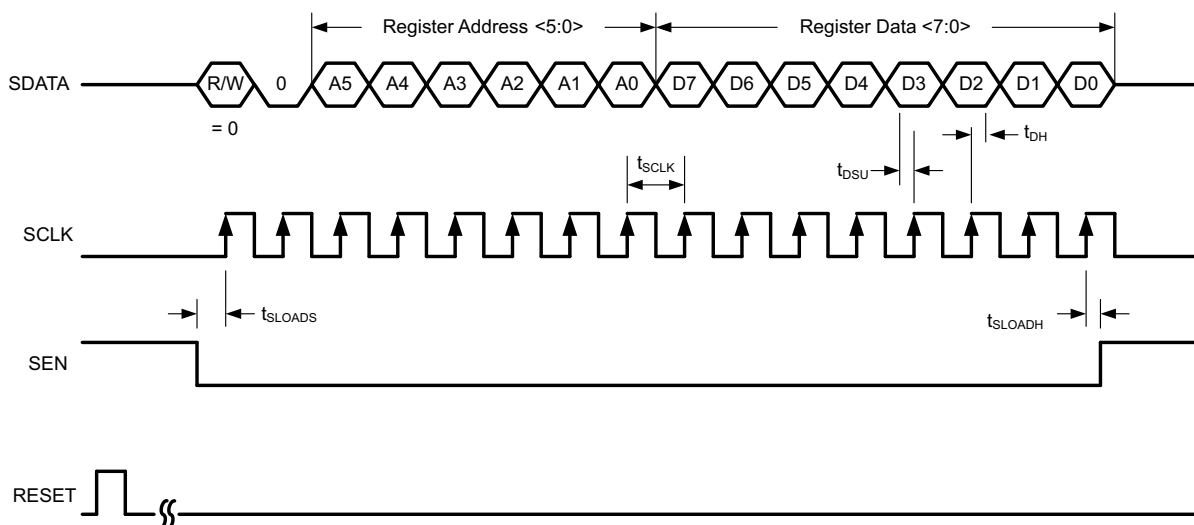

Figure 12. Serial Register Write Timing Diagram
1. Either through hardware reset by applying a high pulse on the RESET pin (of width greater than 10ns, as shown in Figure 12; or